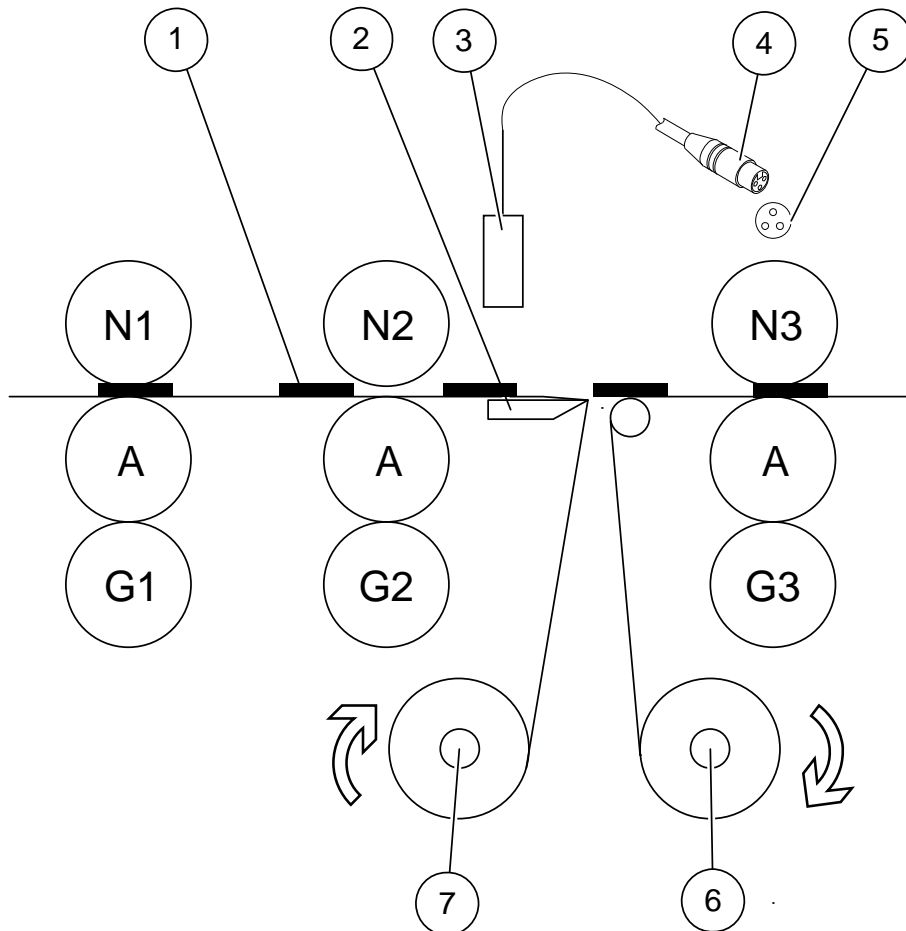

Figure 7-61 Installing photoelectric sensor, liner release knife and air shaft
(1) Graphite sheet (2) Liner release knife (3) Photoelectric sensor
(4) Cable plug (5) Socket (6) Air shaft 1 (7) Air shaft 2
Step1: Install liner release knife (2), air shaft 1 (6) and air shaft 2 (7) between cutter G2 and G3;
Step 2: Install the photoelectric sensor (3) to position shown in Figure 7-61, in front of liner release knife (2);
Step 3: Connect cable plug (4) with socket (5) above cutter G3.